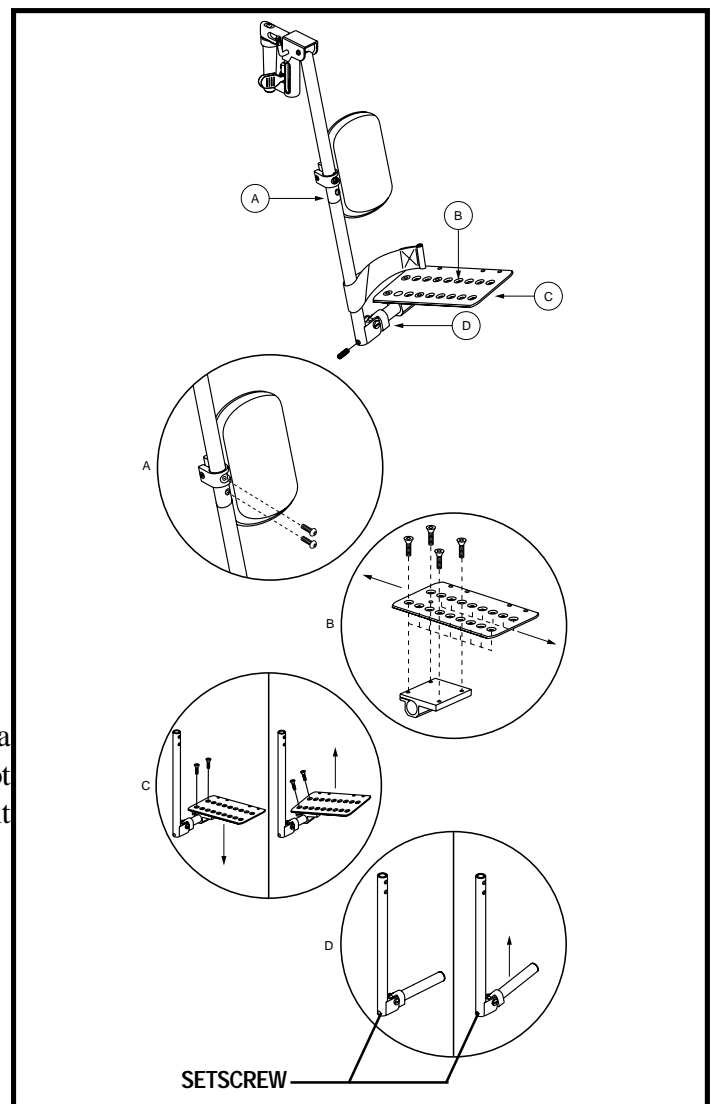

Figure 26. Multi-Axis Foot Plate (ELR Shown)
The multi-axis foot plate assembly can be installed on either a swing-away footrest or an elevating leg rest. The multi-axis foot plate has four adjustments: leg rest length (A), position (B), tilt (C), and angle (D). See figure 26.